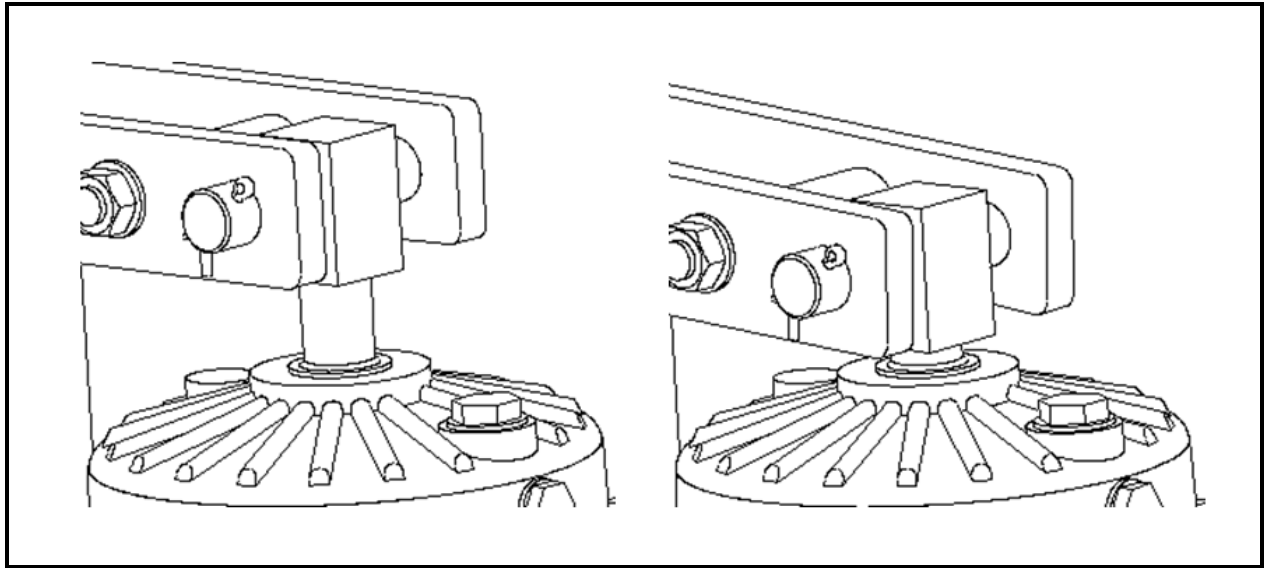

Fig. 8.4
If the thruster rod like Fig. 8.4 right side representation full inside the thruster there is the danger you will loose the hole clamping force. This state must be avoid.
- The spring pre-load can also be checked if you are measuring the travel of the thruster stroke (item 1) on applying the brake. A travel of 1/3 of the max stroke is normal. If the distance travelled becomes greater, adjusting/readjusting may be necessary in order to achieve the maximum braking torque again.
- If the thruster rod like Fig. 8.4 right side representation full inside the thruster there is the danger you will loose the hole clamping force. This state must be avoid it is necessarily to adjust before!
If the thruster rod like Fig. 8.4 right side representation full inside the thruster there is the danger you will loose the hole clamping force. This state must be avoid it is necessarily to adjust before!